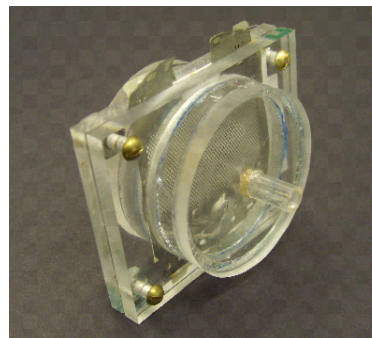

Fig. 4: Finished fuel cell
8. Sandwich two pieces of filter paper and two pieces of shaver foils between the two half compartments. Assemble the components together by screws and nuts. The finished product is shown in Fig. 4.